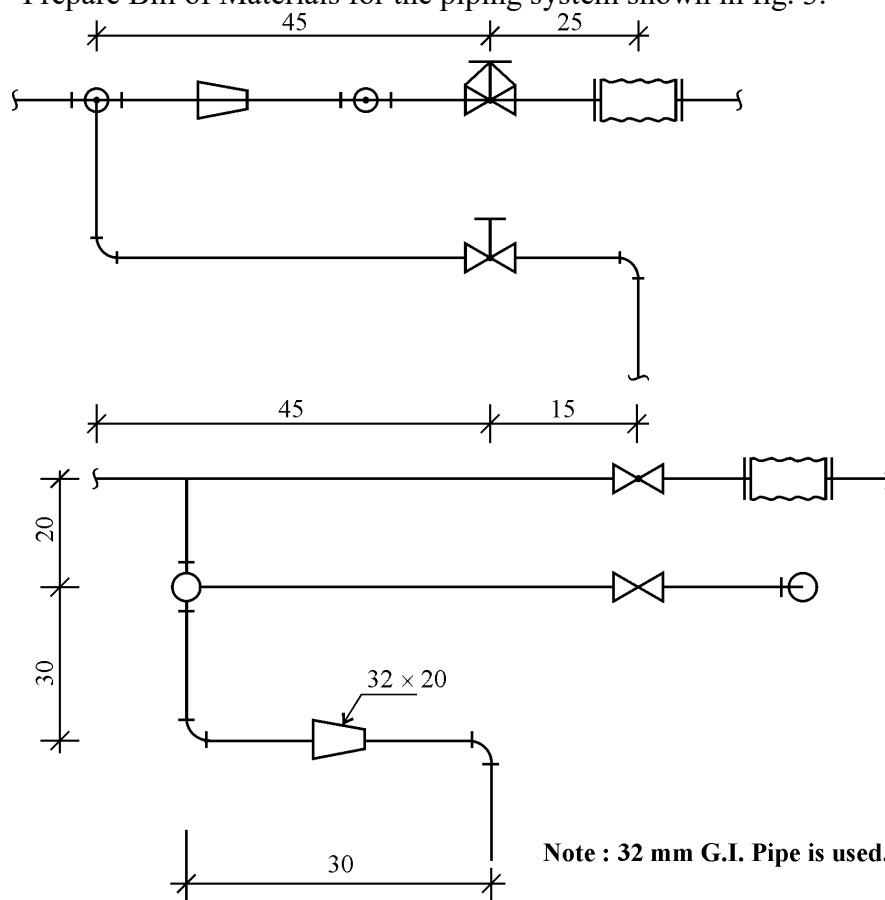

Fig. 3
- (b) (i) Draw a single line developed view of the piping system shown in fig. 3.
- (ii) Prepare Bill of Materials for the piping system shown in fig. 3.